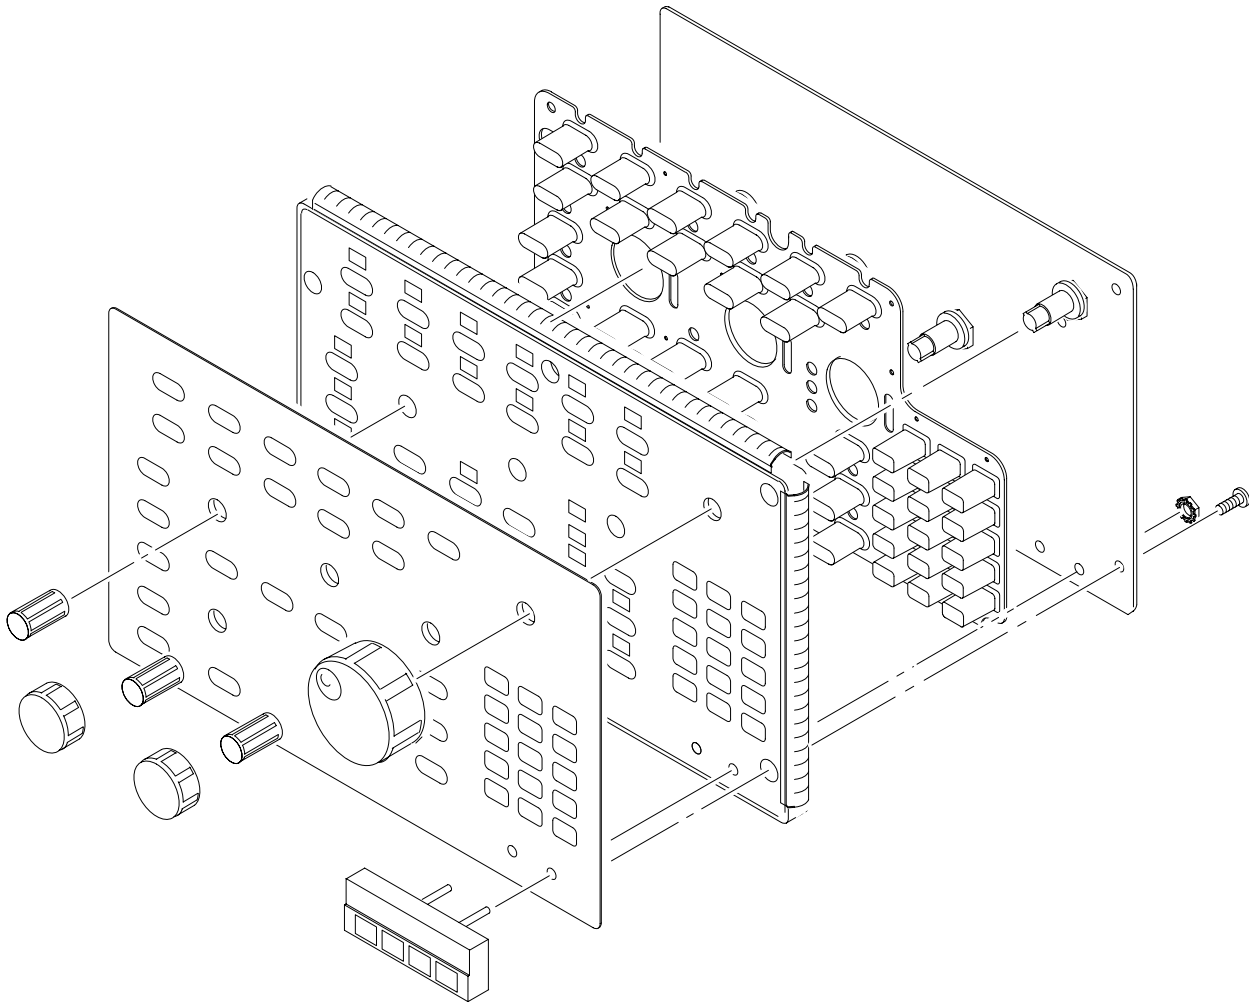

Figure 6–9: Disassembly of Front-Panel Assembly
- b. Locate the modules to be removed in the locator diagram *External Modules*, Figure 6–1.
- a. If the front-panel assembly was further disassembled in step 5, then reverse substeps 5a–5c to reassemble, using Figure 6–9 as a guide.
- b. If the probe calibrator was removed, reinstall it using Figure 6–9 as a guide. Be sure to align the calibrator cover flush to the front panel before installing the two nuts removed in step 4.